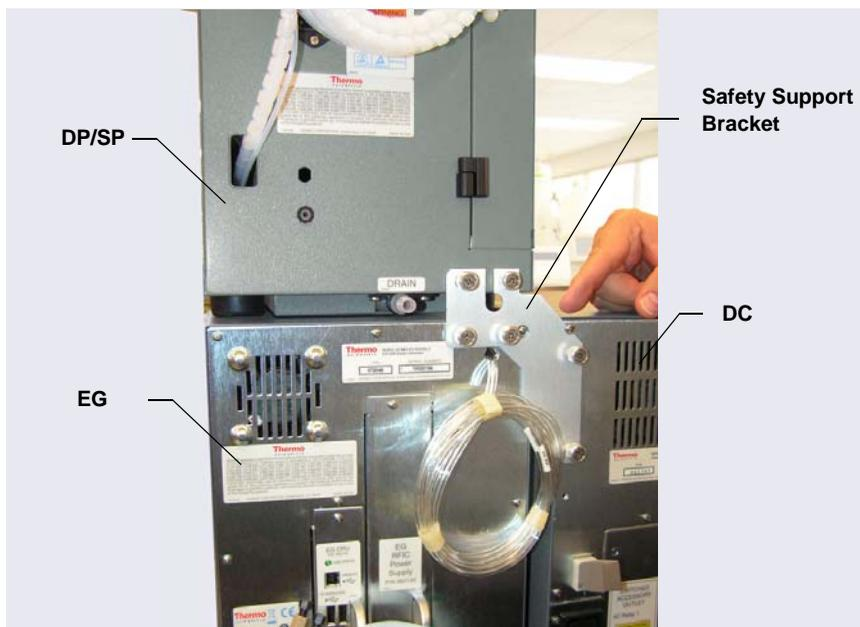

Figure 2-13. Safety Support Bracket Installed on Module Rear Panels
2. Hold the safety support bracket firmly against the rear panels of the adjacent modules (see Figure 2-13).